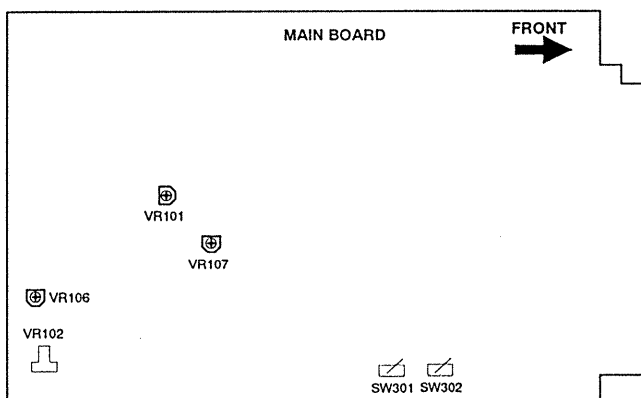

Figure 4-1 Location of on Main board
1. Input a cross hatch pattern in 93.75kHz (1600X1200) mode and adjust VR101 on the main board (see figure 4-1 for approximate location) so the high voltage is in the range 28kV~30kV the set will shut down.
Input a raster pattern (video OFF) in primary mode and push the external brightness control button to maximum. Adjust VR102 (see Figure 4-1 for approximate location) so that the voltage of G1 read on a digital multimeter is -45V \pm 1.
3. Before carrying out white balance adjustment, make sure that the VR106 (see Figure 4-1 for approximate location) position shall be turn counterclockwise to the end (ABL no action).
4. Before carrying out white balance adjustment, make sure that the internal contrast VR107 (see Figure 4-1 for approximate location) shall be turn to the center position.